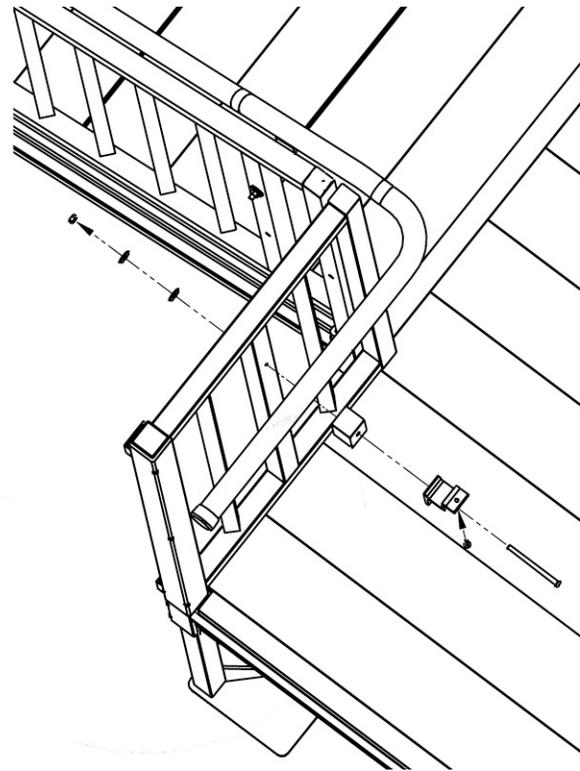

FIG. 24
- 5.4.6 Hold a handrail bracket and standoff in place on the middle square picket in the filler section and mark the location of the center of the hole (FIG. 24).